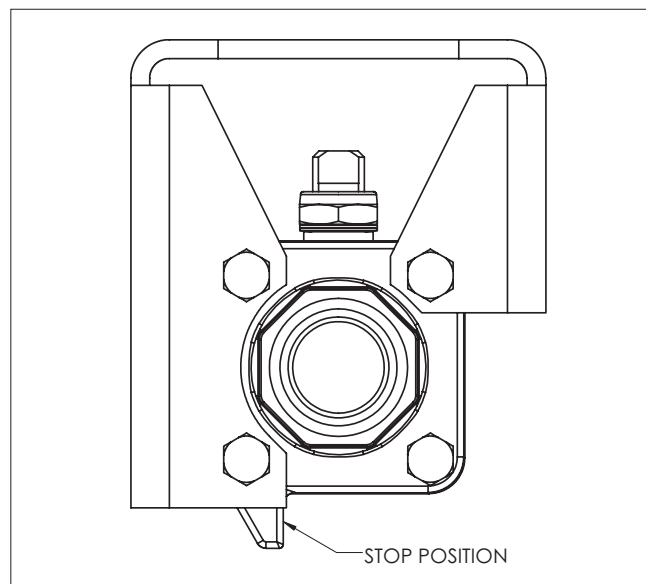
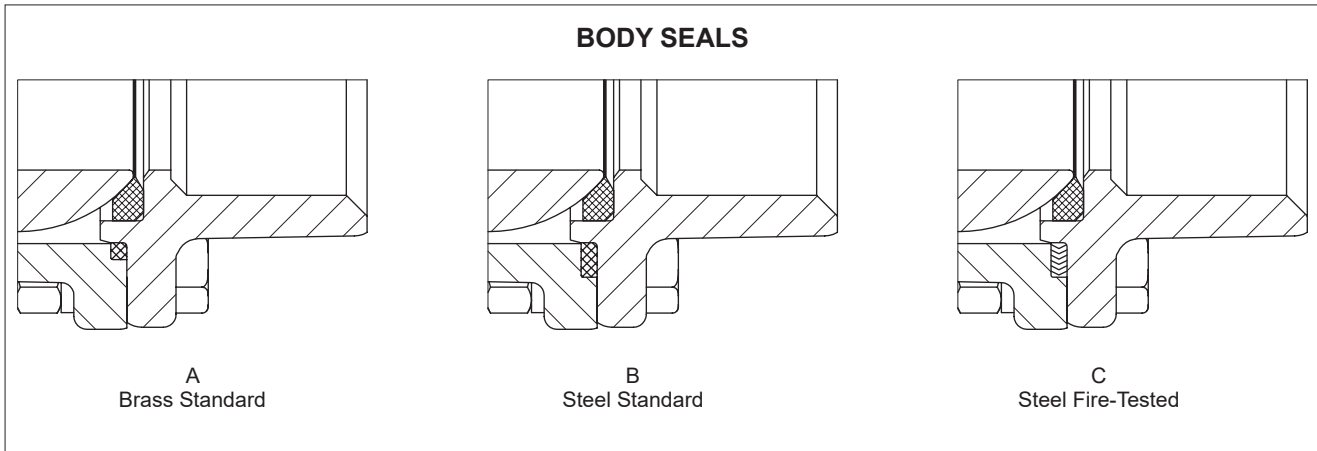

Figure 6. Stop Position for Actuated Valve
Figure 8.
- c. From **Figure 6**, the ballooned part number, part name and quantity required.
8. Insert the second seat (5) in the body cap (2) so that the sealing surface of the seat is towards the ball (**see detailed diagram in Figure 6**).
9. Assemble the body cap (2) to the body (1). Insert the four body bolts (52). The bolt heads should be on the body cap.
NOTE: The handle stop is part of the body cap (2). When assembling the valve, be sure the handle stop that projects from the body cap is in the upper right corner as the body cap faces you (see **Figure 6**).
10. Place the four lock washers (55) over the body bolts (52). Thread on the four hex nuts (53) and tighten until snug.
11. Assure that the body and body cap are properly aligned. Tighten the body bolts alternately in a diagonal pattern in 2 lb.-ft. increments until achieving torque values in the Recommended Torques for Body Bolt Table in **Figure 6**.
9. Assemble the body cap (2) to the body (1).
NOTE: The handle stop is part of the body cap (2). When assembling the valve for actuation, be sure the handle stop that projects from the body cap is in the bottom left corner as the body cap faces you (see **Figure 8**).
11. Insert the four body bolts (52). The bolt heads should be on the actuator bracket. Place the four lock washers (55) over the body bolts (52). Thread on the four hex nuts (53) and tighten until snug.
12. Assure that the body and body cap are properly aligned. Tighten the body bolts alternately in a diagonal pattern in 2 lb.-ft. increments until achieving torque values in the Recommended Torques for Body Bolt Table in **Figure 6**.
- c. From **Figure 6**, the ballooned part number, part name and quantity required